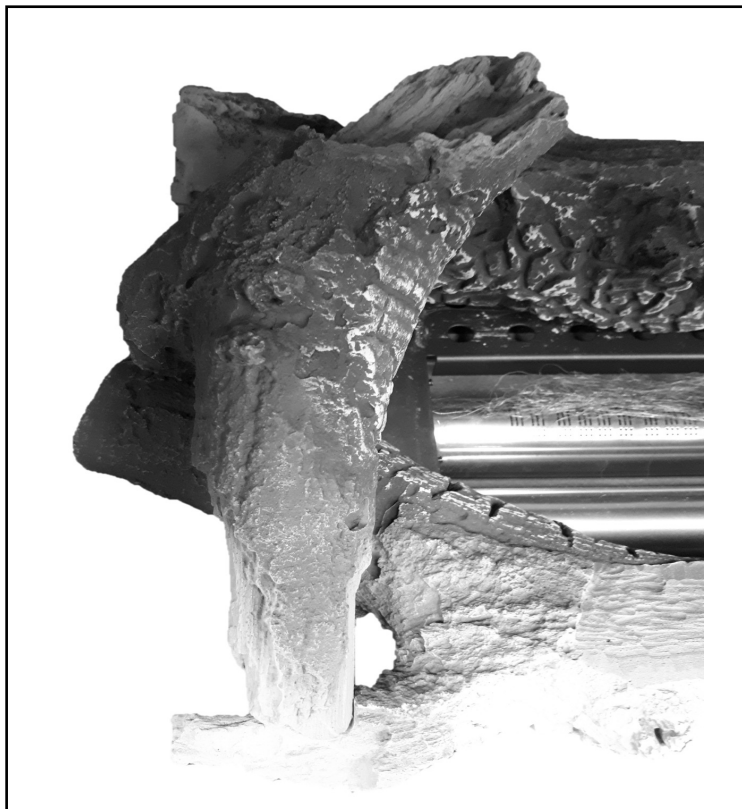

Fig. 6
6. Place Log '6' so that it is resting on Log '5' and to its rear on Log '1' as shown in fig.6.